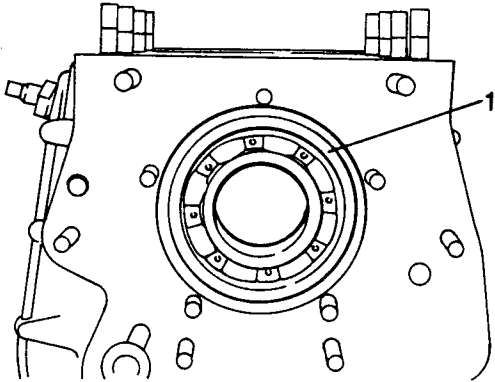

Fig H1.66
- (3) Refer to Fig H1.66. Remove the rear bearing (1) with its spring ring, lightly tapping this bearing towards the rear of the gearbox.